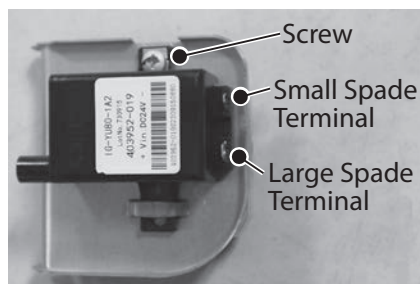

Figure 137 - Disconnecting ignitor assembly wires
- 23 Disconnect the two spade terminal connections at the back of ignitor and remove ignitor assembly and bracket from water heater. See Figure 137.